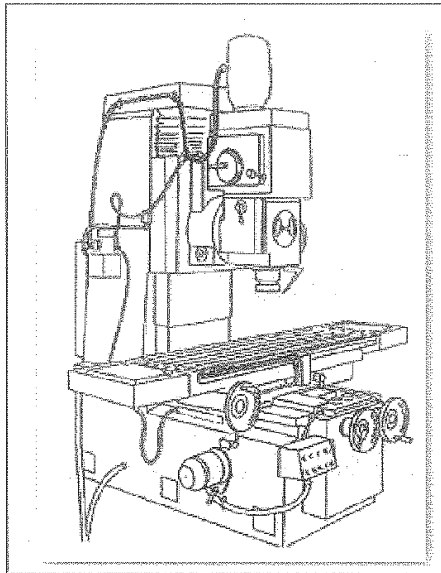

Figure 5
- b) Figure 5 shows a bed-type milling machine. Explain briefly **THREE (3)** principal parts of the machine.